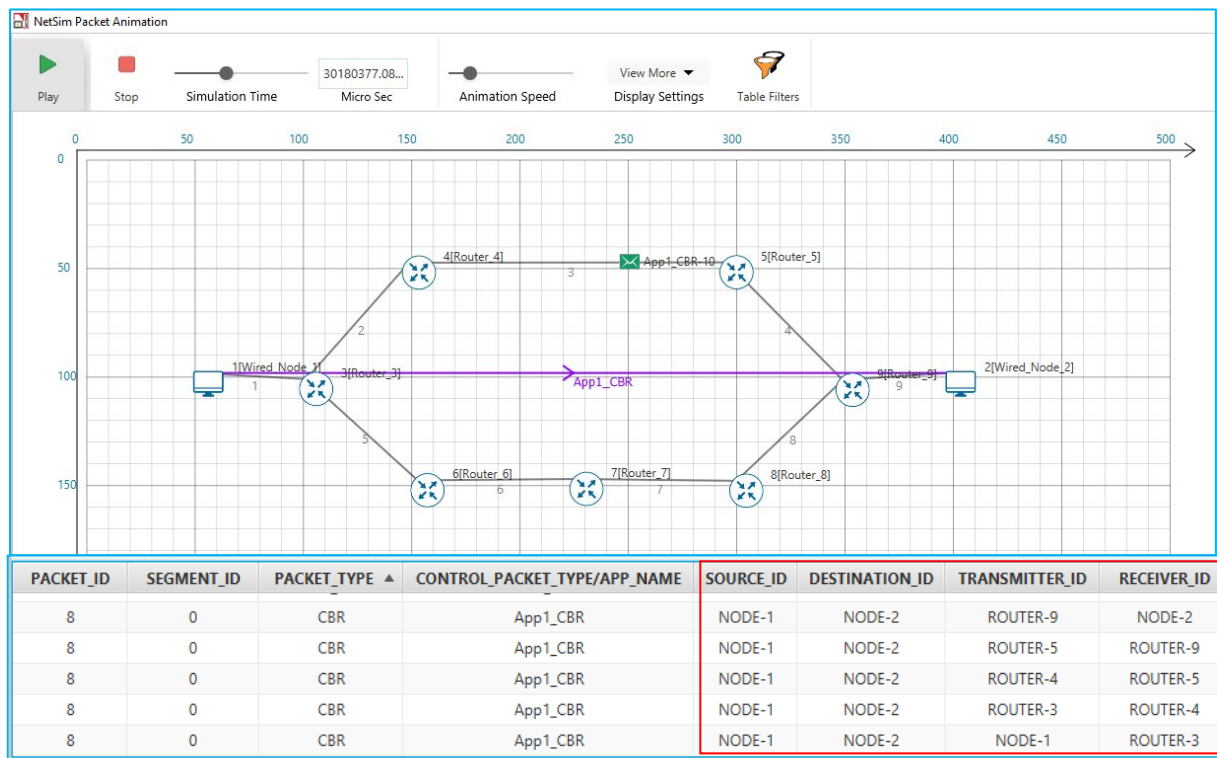

Figure 34-6: Animation window for sample 1
- The packets are routed to the Destination via, **N1 > R3 > R4 > R5 > R9 > N2** as shown below **Figure 34-6**.